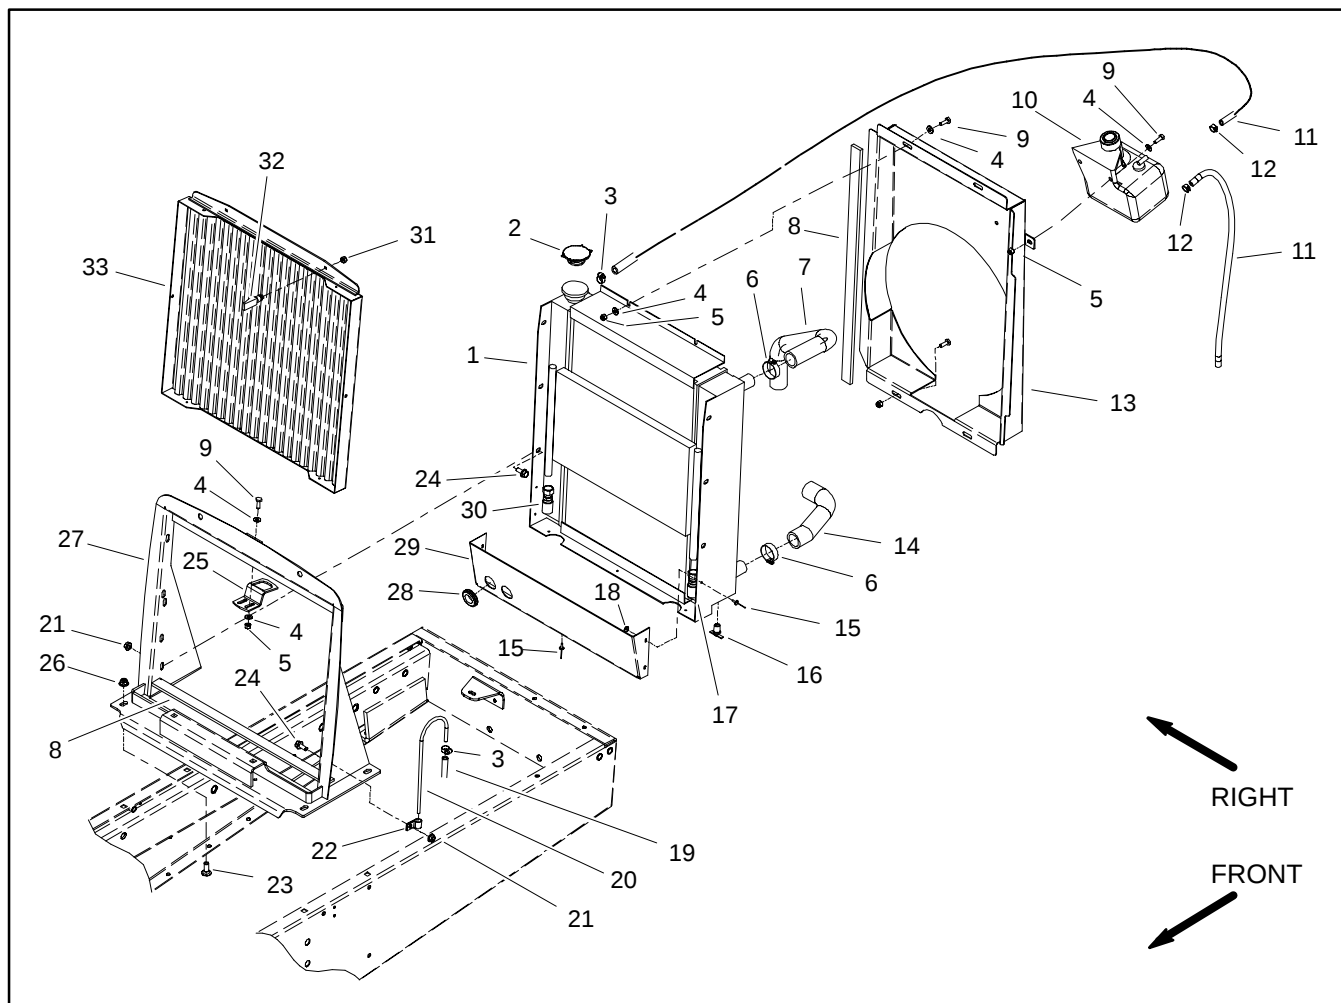

Figure 6
Removal (Fig. 6)
8. Remove four (4) cap screws, flat washers and lock nuts that secure fan shroud to radiator. Position fan shroud away from the radiator.
10. Remove six (6) flange head screws and flange nuts that secure radiator to radiator support.
12. As required, remove radiator shield and oil cooler from radiator using Figures 6 and 7 as guides.
Installation (Fig. 6)
1. If removed, install radiator shield and oil cooler to radiator using Figures 6 and 7 as guides.
3. Carefully position radiator assembly to the radiator support. Secure radiator with six (6) flange head screws and flange nuts.
4. Position fan shroud to the radiator. Secure fan shroud to radiator with four (4) cap screws, flat washers and lock nuts. Make sure that a minimum of .250" (6.4 mm) clearance exists at all points between shroud and fan.